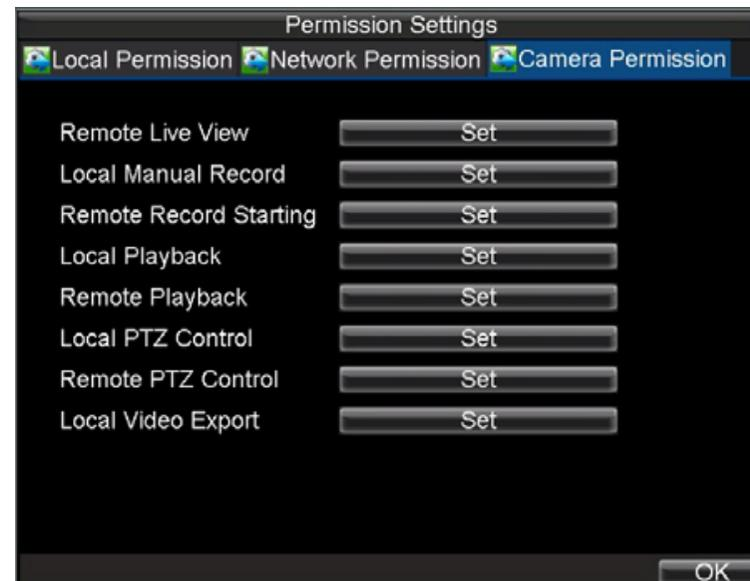

Figure 14.8. Camera Permission Settings Menu
- 8) Click on the **Channel Permission** tab to configure channel permission, as shown in Figure 14.8. The channel settings include: